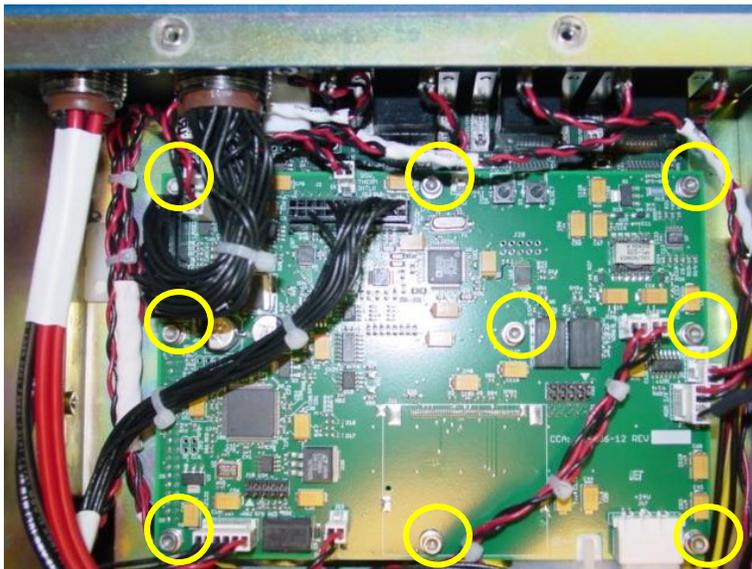

Figure 1: Location of the EM CCA Attachment Hardware
7. Use a 7/64" hex driver to remove the nine (9) 6-32x1/4" screws, lock washers and flat washers shown in **Figure 1** below. Take care that parts are not dropped into the controller as this may lead to electrical shorting of components.